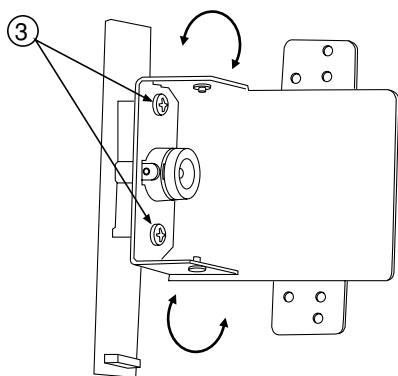
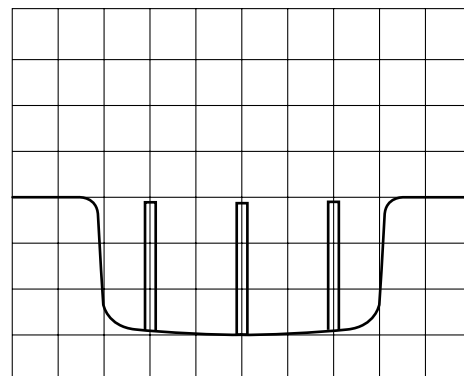

Fig.8
Fig.9
- 9) Torsion adjustment of CCD Unit (See Figures 8 and 9.)
Move the Lens Unit so that the waveform on the oscilloscope is laterally symmetrical. Fix screws ③ in Figure 8 when the waveform is displayed as shown in Figure 9.